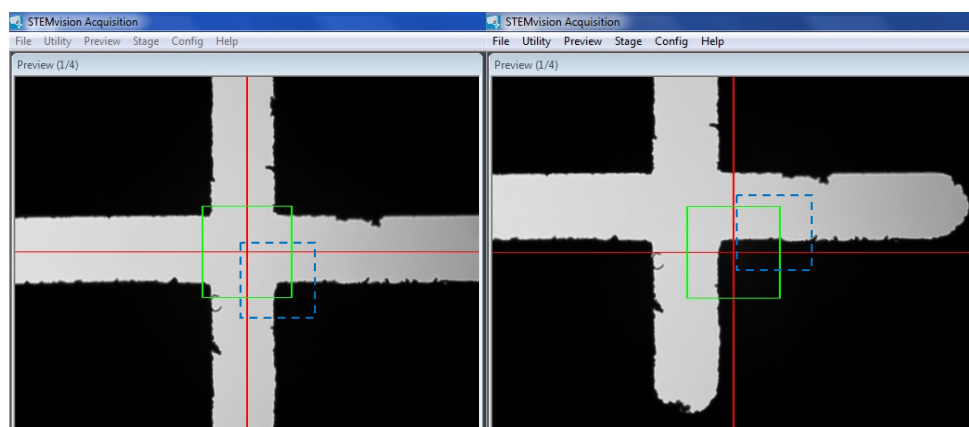

Figure 21. STEMvision™ Stage Position: Correct (left) and Incorrect (right) Positioning
4. Confirm that the intersection of the red grid lines falls within the center area of the cross (i.e. open space outlined in blue dashed square), as shown in Figure 21 (left image).
5. Right-click on well A1 in the Well Navigator dialog box to move the stage to the center of this well. A cross-shaped slot should again be visible in the preview image. Confirm again that the red grid lines fall within the center area of the cross, as shown in Figure 21 (left image).
6. If the red grid lines fall outside of the boundaries of the cross shape for either wells A1 or B3, then the stage is not calibrated correctly (Figure 21, right image).